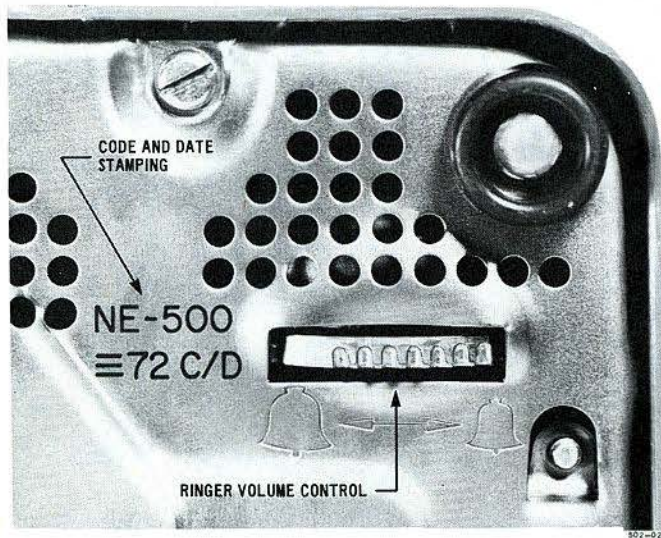

Fig. 7 — NE-500 Type Telephone Set Base Showing Date Stamp and Ringer Volume Control
2.11 Most telephone sets are equipped with NE-C4A ringers. The ringer volume may be adjusted for four levels using the four corresponding positions of the volume control, (Fig. 7 and 8). A fifth position is supplied for manual ringer cutoff, an installation option.
3.01 The code number and assembly date are stamped on the base of each telephone set (see Fig. 7). Double code numbers (e.g., NE-500 C/D or CR/DR) permit field conversion from rotary dial to manual operation or vice versa, without changing the code number stamped on the base of the set. The letter R indicates that the telephone set is equipped with a spring type retractile handset cord. The R — marking has been discontinued on telephone sets of recent manufacture.